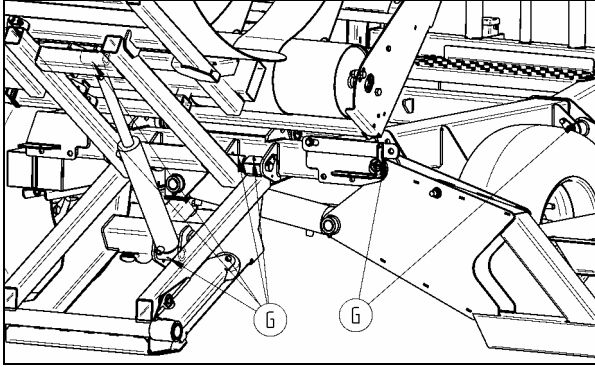

fig. 31 – Lubrication points
- Make a complete operation of greasing to all the points earmarked with the label „greasing” and to all the points submitted to friction (fig. 31 and 32, G).
- To oil pins earmarked with letter O (fig.31 and 32, O).